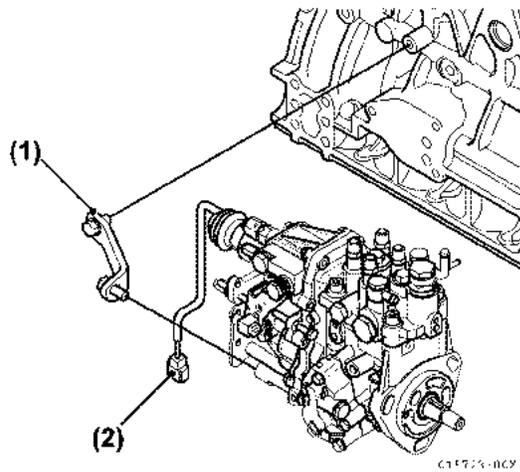

Figure 6-29
11. Separate the stop solenoid wiring connector (Figure 6-29, (2)).
12. Remove the rear fuel injection pump bracket (Figure 6-29, (1)) from the fuel injection pump.